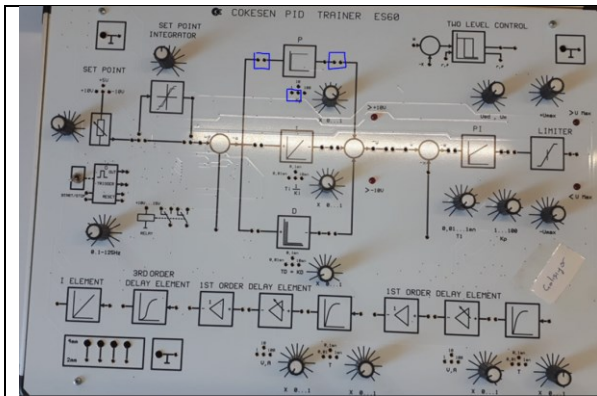

Figure 8: black-jumper connections
- 3) Using the black-jumpers, close the circuits as shown in Figure 8.